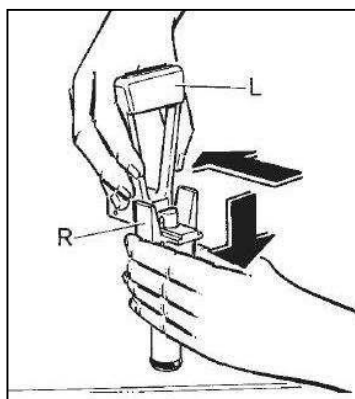

Fig. 13
- Disassemble the dispensing tap by keeping the indicated part (R) pressed down and slipping off the dispensing lever (L) (see figure 13).